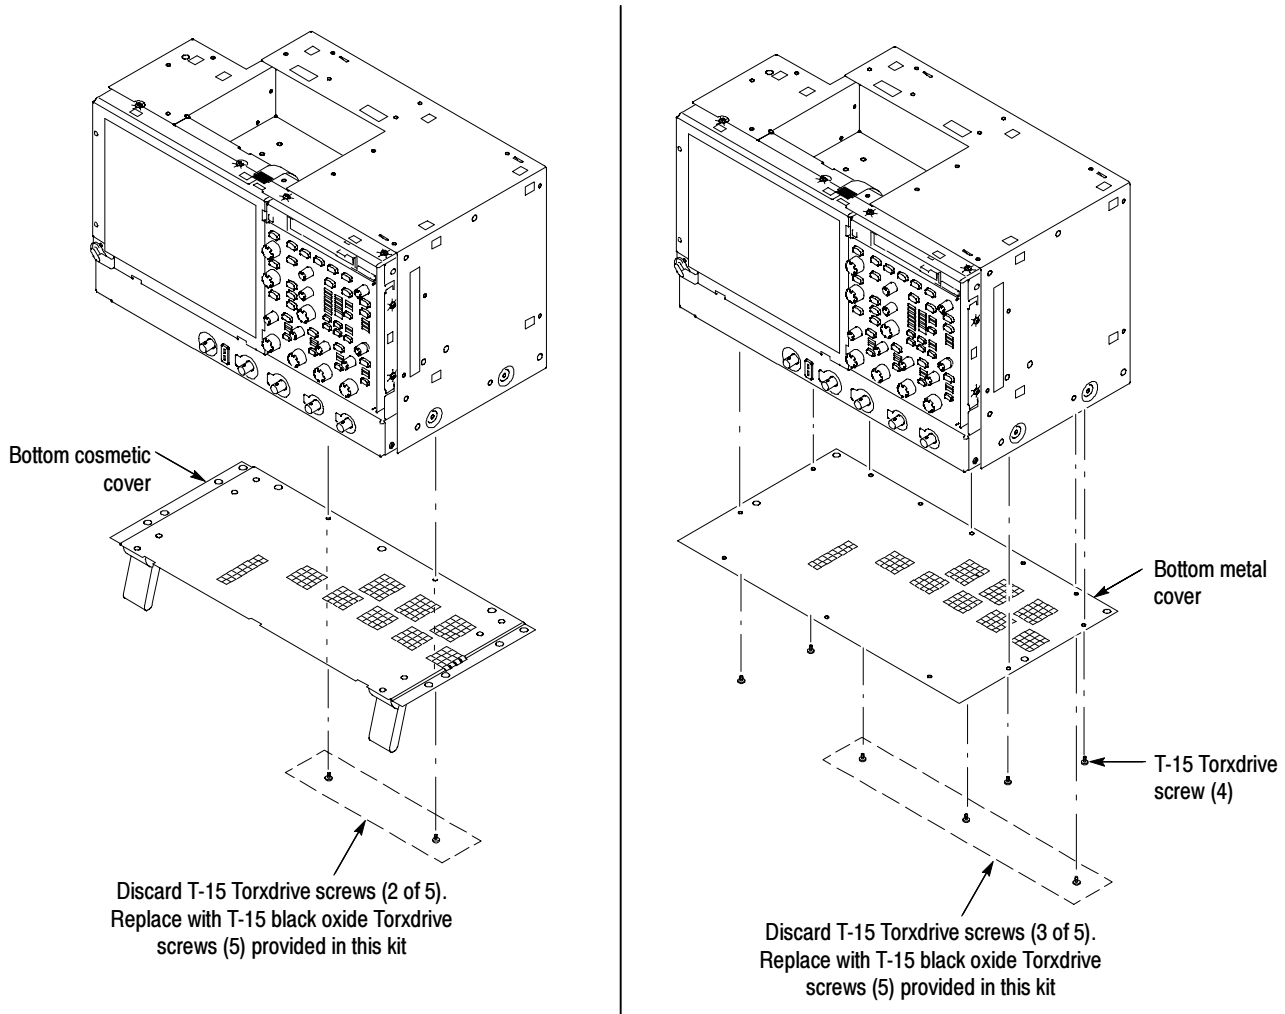

Figure 5: Metal and cosmetic cover removal/install
CAUTION. Discard five of the T-15 Torxdrive screws. These screws will be replaced with five shorter (black oxide) screws that are provided in this kit. The five screws are located on the rear edge of the bottom cosmetic and metal covers. The new shorter screws will prevent damage to the new CPU assembly. See Figure 5, on page 10.
- b. Reinstall the bottom covers. Perform the procedures in reverse order, steps 1 and 2, on page 10. See Figure 5, on page 10, for screw locations.
CAUTION. *Install the new shorter (black oxide) screws that are provided in this kit. See Figure 5, on page 10. The new shorter screws will prevent damage to the new CPU assembly.*